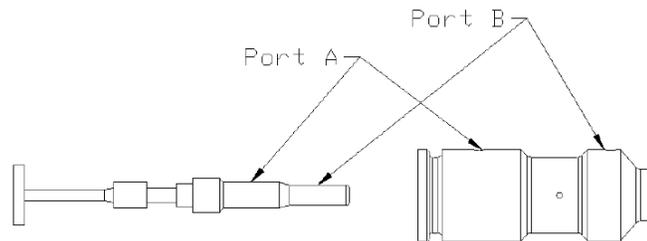

Figure 1: Dual Port Hot Stab Configuration
- 4.1 For the purpose of this procedure, Port A refers to the port nearest the ROV panel, and Port B refers to the port away from the ROV panel as shown in Figure 1.